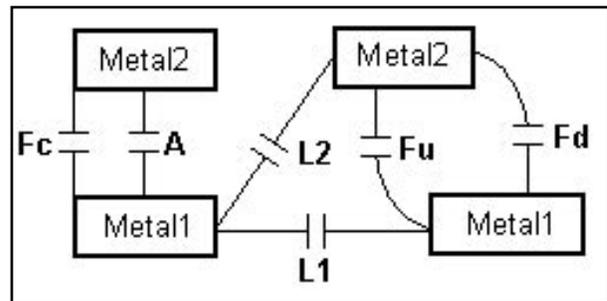

Figure 1. Parasitic Capacitance Effects.
- Area capacitance is a surface-to-surface capacitance between two overlapping polygons on different layers (see A in Figure 1).
- Fringe capacitance is an edge-to-surface capacitance between two overlapping polygons on different layers (see Fu and Fd in Figure 1). The limit case of a
fringe capacitance is a capacitance between exactly coincident edges (see Fc in Figure 1).
- Lateral capacitance is an edge-to-edge capacitance between two adjacent polygons on the same or different layers (see L1 and L2 in Figure 1).
The fringe coefficient equation is designed specifically to account “charge-sharing” effects. Consider Figure 1. The value of the fringe capacitor Fu is highly affected by the presence or absence of the Metal1 polygon at the left. If the left Metal1 edge is moved to the right, then some of